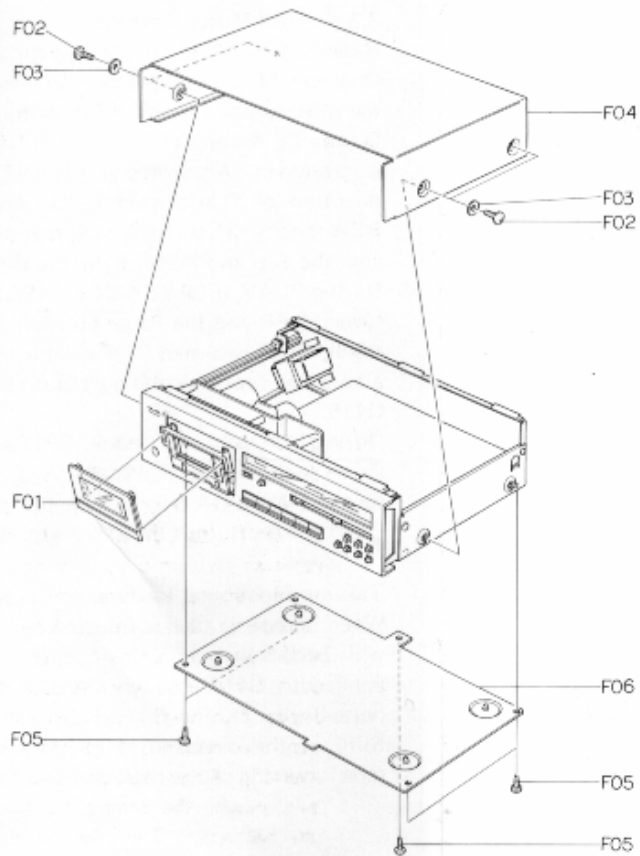

Fig. 3.1
Refer to Fig. 3.1.
- (1) Refer to Fig. 3.1. Remove Top Cover Ass'y and Bottom Cover Ass'y referring to items 3.2 and 3.3.
- (2) Pull out F01 (Volume Knobs).
- (3) Remove F02 (Power Switch Joint Bar) by releasing the self-interlocking pin of the Power Switch Joint Bar from Power Switch, and turn F02 (Power Switch Joint Bar) by 90 degrees either clockwise or counter clockwise, then disassemble F02 (Power Switch Joint Bar) from the Power Switch Knob Ass'y.
- (4) Remove F03, then disassemble F04 (Front Panel Ass'y).
- (2) Remove F01, F02 and F03, then disassemble F04 (Rear Panel Ass'y).
- (3) Remove F05 and F06, then disassemble F07 (Power Transformer).
- (4) Remove Power Switch Joint Bar by releasing the self-interlocking pin of the Power Switch Joint Bar from Power Switch and F08, then disassemble F09 (Power Switch Holder Ass'y).
- (5) Remove F10, then disassemble F11 (Power Switch).